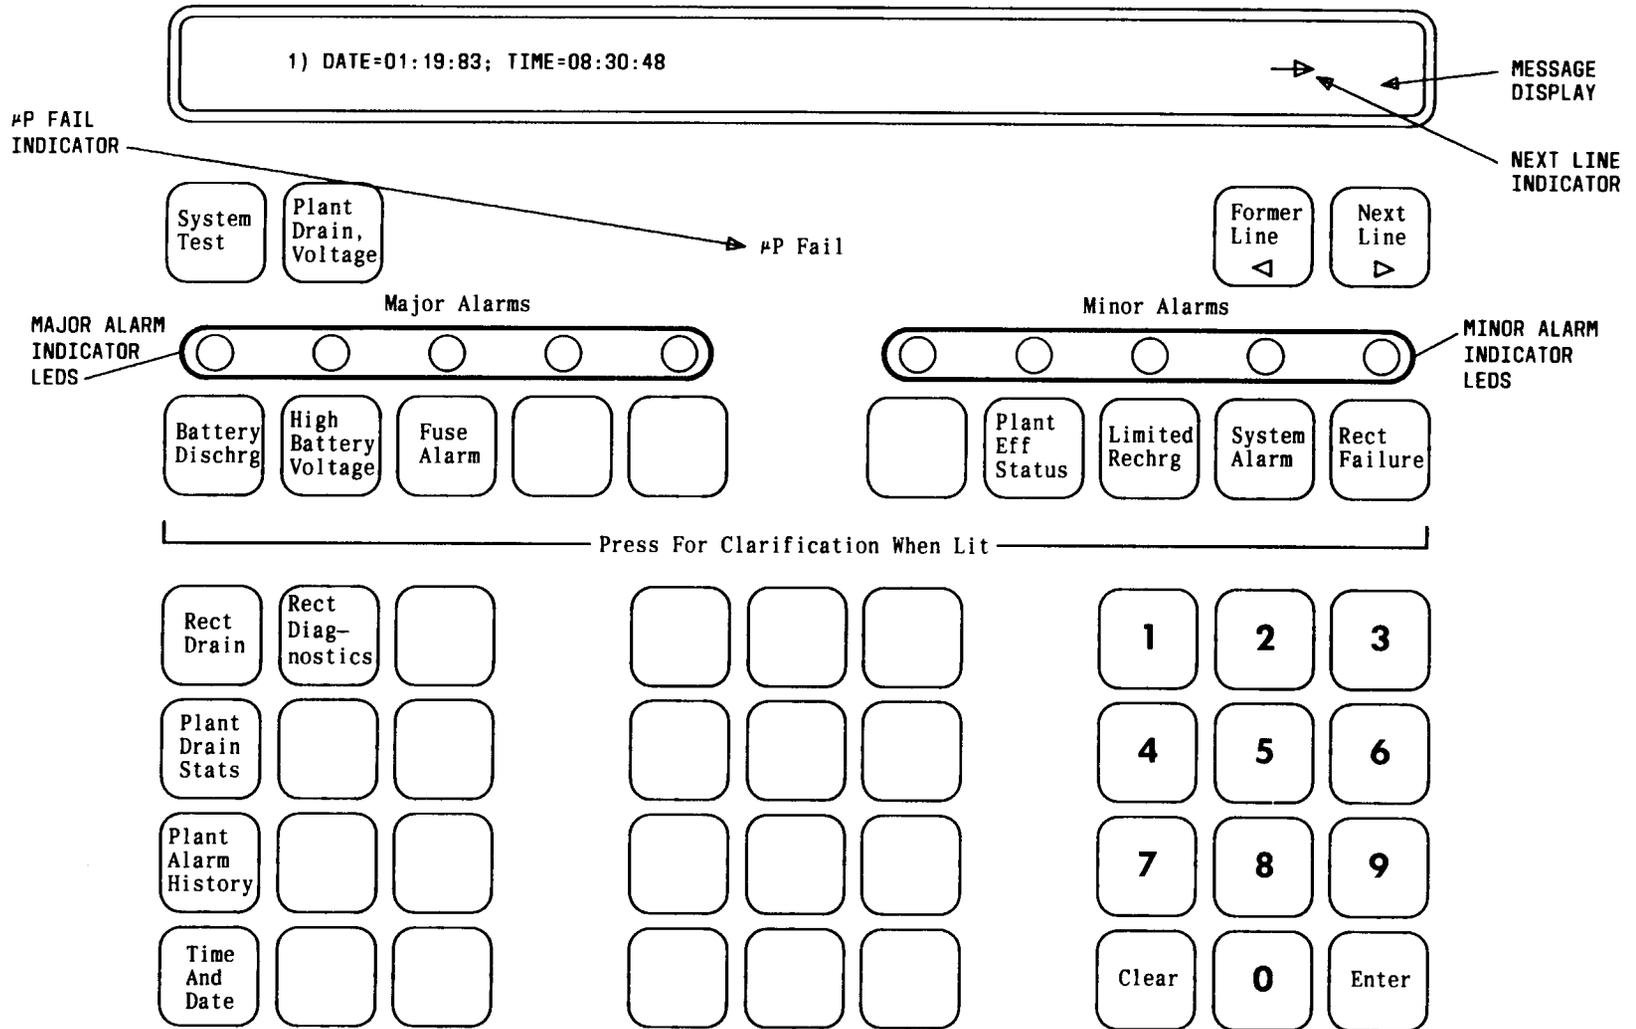

Fig. 6—Smart Plant Controller Controls
**3.05** The front panel of the smart plant controller (Fig. 6) has a black polymer face and contains the following: